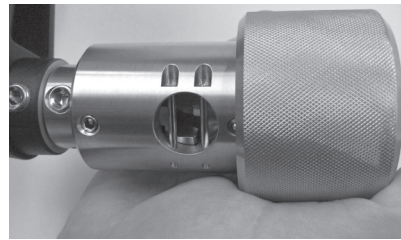

Fig. 22 Resetting the drive nut
11. Reset the drive nut by pushing it past the spring plungers until the drive nut extends over the end of the housing. (Fig. 22)